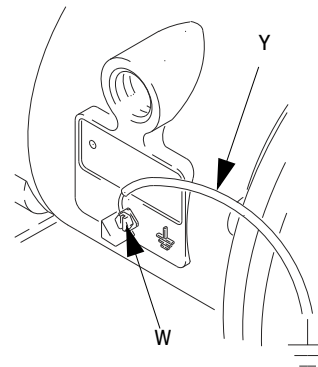

FIG. 1
- **Pump:** Connect a ground wire and clamp as shown in Fig. 1. Loosen the grounding screw (W). Insert one end of a 12 ga (1.5 mm2) minimum ground wire (Y) behind the grounding screw and tighten the screw securely. Connect the clamp end of the ground wire to a true earth ground. Order Part No. 238909 Ground Wire and Clamp.